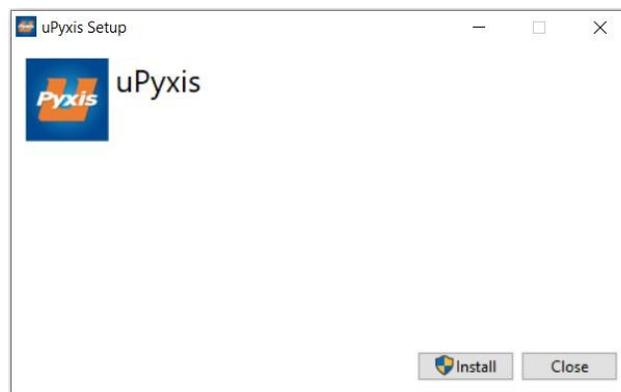

Figure 12. uPyxis® Desktop App installation
3. On uPyxis® Desktop App, click Device → **Connect via USB-Bluetooth** or **Connect via USB-RS485** (Figure 12).
4. If the connection is successful, the ST-601 sensor and its Serial Number (SN) will be displayed in the left pane of the uPyxis® window.